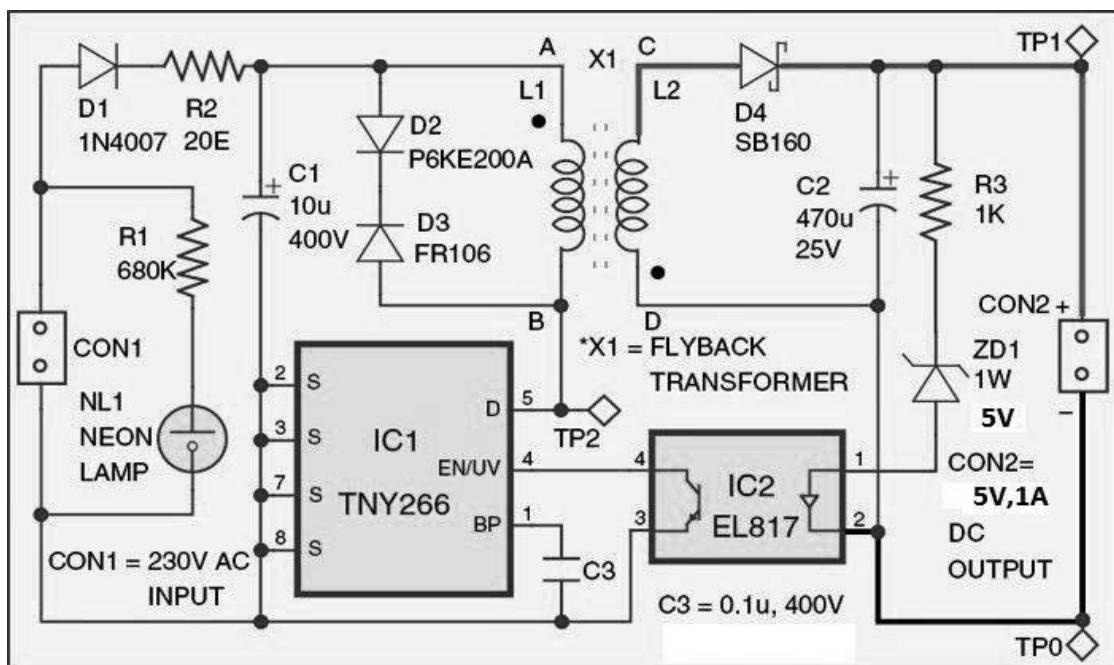

Fig. 14.1 SMPS 5V 1Amp circuit
1. Connect the circuit as per the diagram shown in Fig 14.1.
XVIII Practical Related Questions (Refer fig. 14.1)